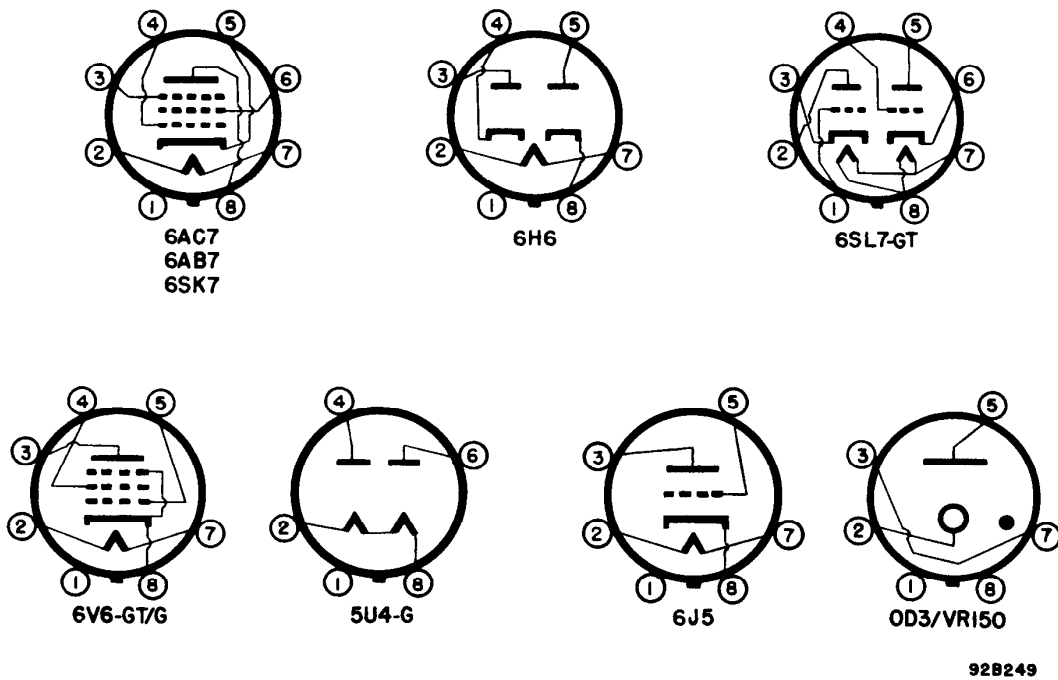

Figure 7-6. Radio Receiver Model S-36A, tube socket connections.
a. Voltage Chart. - Refer to Fig. 5-2. for the tube socket terminal voltages. Voltages shown are those between the terminal and ground (chassis) unless otherwise specified. To identify the tube socket connections, refer to Fig. 7-6. The readings were taken with an RCA Volt-Ohmyst Junior analyzer using 20,000 ohm per volt sensitivity. To prepare the receiver for measurement, disconnect the antenna, connect a jumper between the antenna terminals A1, A2 and GND, disconnect the speaker and replace with a 5000-ohm 10-watt resistor across the 5000-ohm output terminals or a 500-ohm 10-watt resistor across the 500-ohm terminals, and set the controls as follows:
**b. Resistance Chart.** - Refer to Fig. 5-3. for the tube socket terminal to ground (chassis) resistance measurements. To identify tube socket connections, refer to Fig. 7-6. The readings were taken with an RCA Volt Ohmyst Junior analyzer. To prepare the receiver for measurement, disconnect the a-c line cord and set the controls as follows: